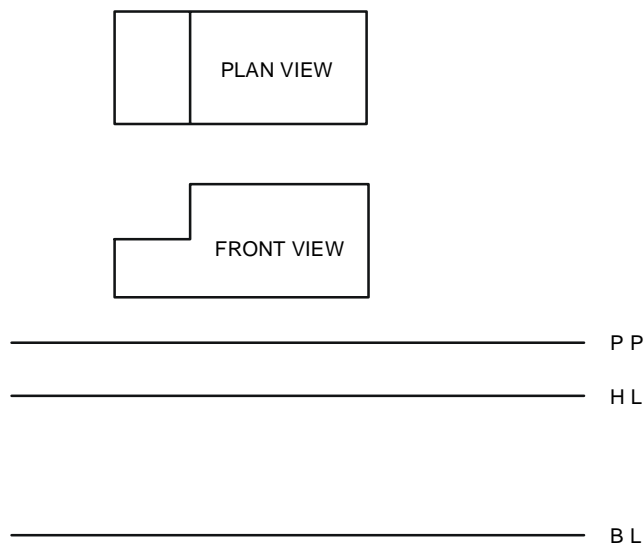

Figure C-7. Plane view of two-point perspective.
b. The plan view of two-point perspective is discussed in steps (1) through (15).
NOTE: See Figure C-7 for steps (1) and (2).
(1) Draw the horizon line and baseline.
(2) Draw the picture plane line near the top of the paper, so it is not in the way of the perspective drawing.